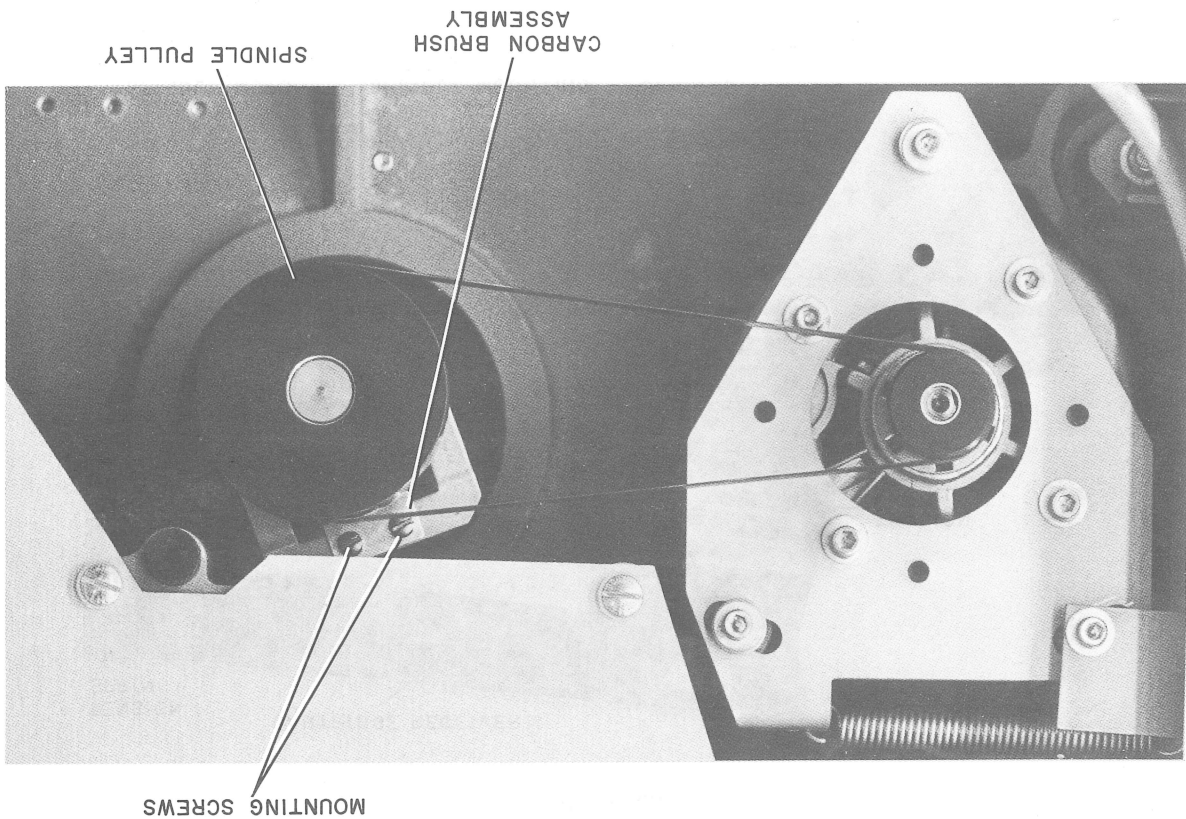

Figure 5-8 Carbon Brush Replacement
3. Remove the bottom covers and remove the two screws that attach the carbon brush assembly to the spindle (Figure 5-8).